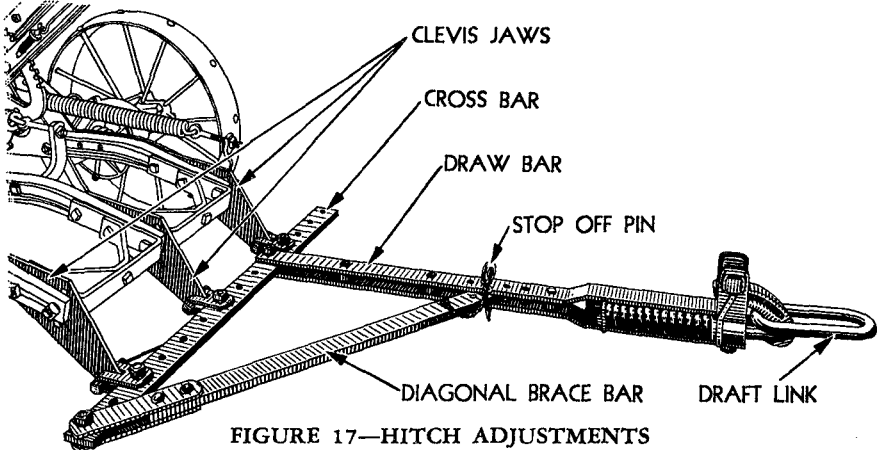

FIGURE 17—HITCH ADJUSTMENTS
b. Horizontal hitch adjustment. This adjustment is provided so the plow can be hitched to pull straight and in proper working position with each furrow cutting a furrow slice 14 inches wide behind prime mover. Whether opening the land or doing regular plowing, the drawbar should always be approximately parallel to line of travel. To adjust drawbar, move right or left on cross bar, and then adjust diagonal brace bar to proper position, and lock with stop off pin. (Figure 17.)